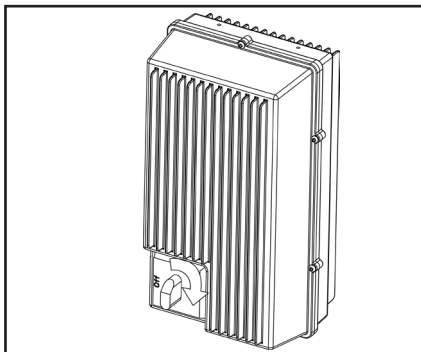

Fig. 1 0627106
2. Interrupt the master switch (Fig. 1).
1. Turn off the main switch at the control box (Fig. 1)